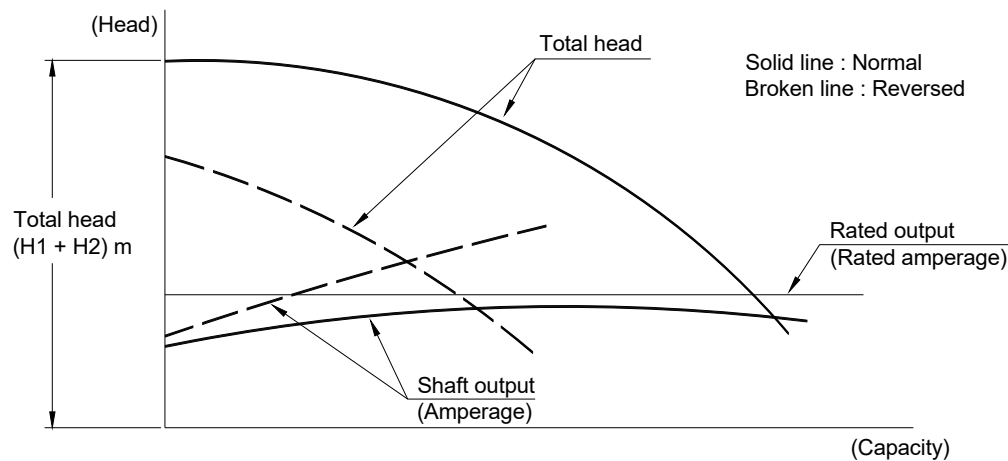

Fig. 12 Pump performance for Normal Rotation
5.2 Checking Rotation Direction (Figs. 12 and 13)
If the pump is reversed, a performance curve as denoted by dashed lines in Fig. 12 is usually obtained, where the pump's discharge pressure is lower than normal or specified, and a sudden rise in electric current occurs with gradual opening of sluice valve.